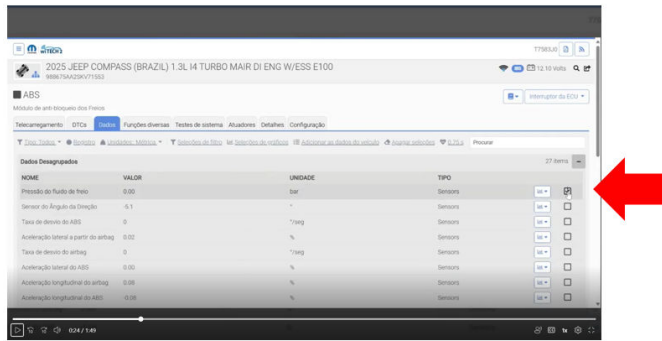

Fig. 3
- 5. Select the pressure of the fluids in the DATA function Fig. 3.